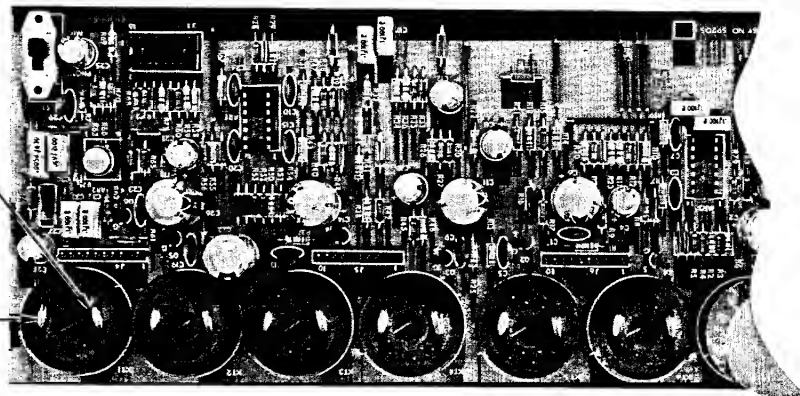

FIGURE 7B
2. Remove the two copper jumpers between terminal **8 & 9** and **4 & 5** of **XT1-XT6**, Figure 7B.
To install microphone jumpers, Figure 7B: